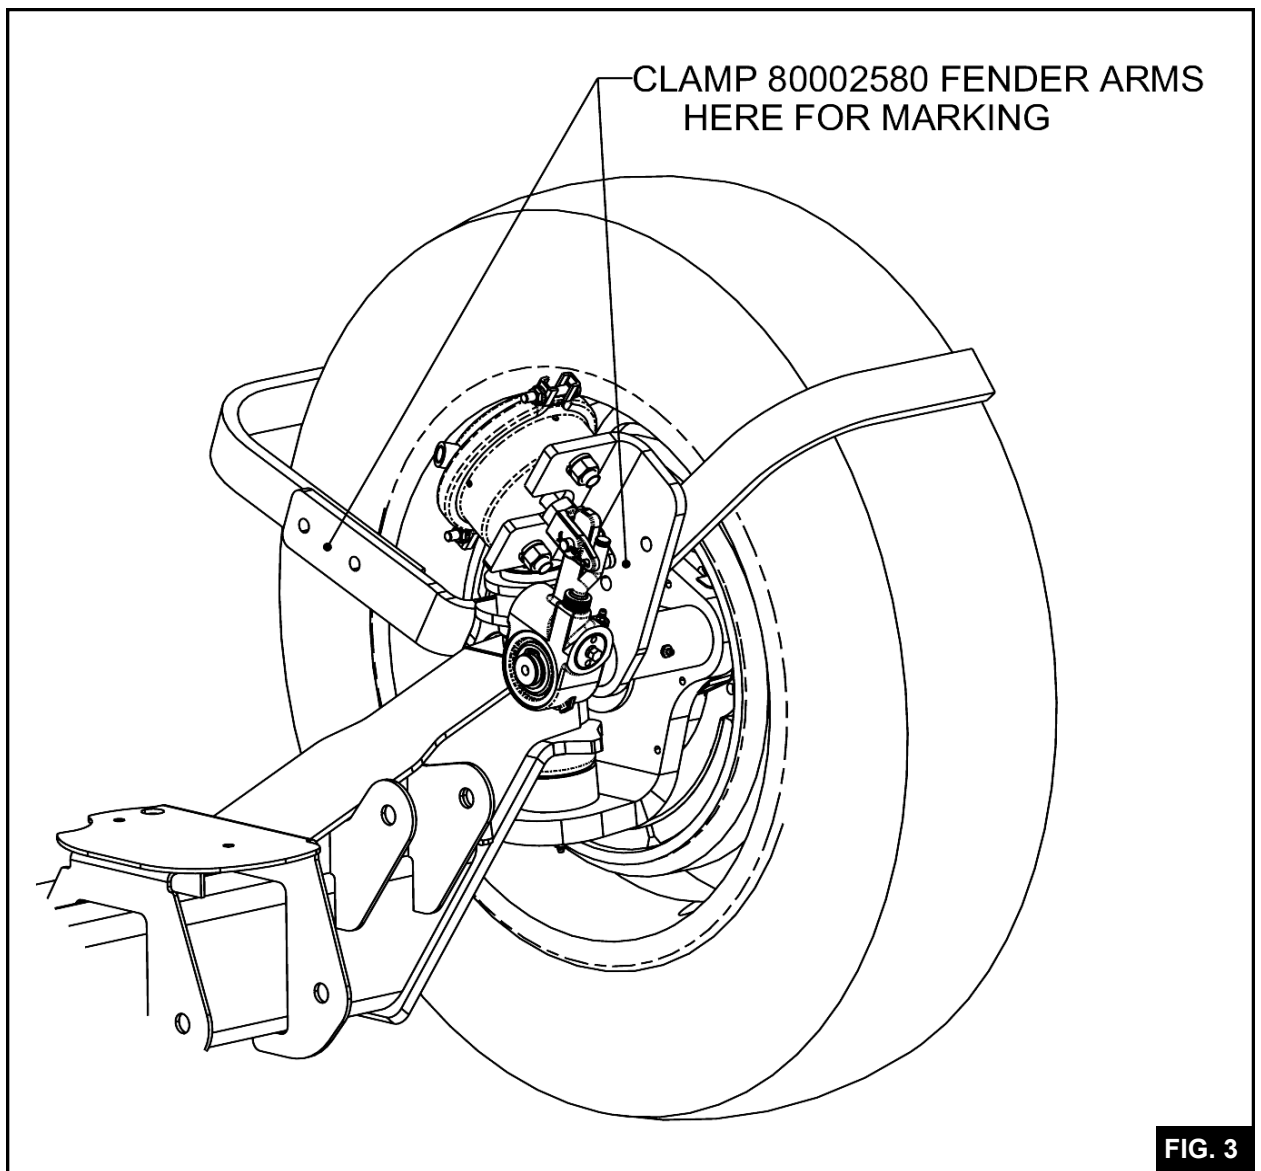

FIG. 3
3.6 Clamp the fender arms to the mounting brackets as shown in **Fig 3**. Verify that there is approximately 1-1/2" gap between the aluminum fender arm and the tread face of the tire. (See **Fig 4**).